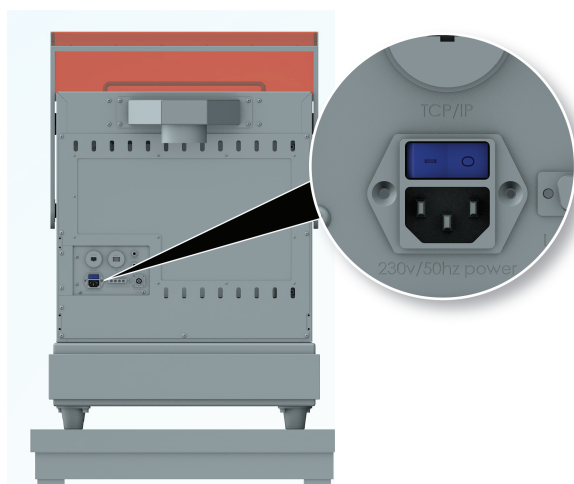

Figure 3-2 Turning on the PICOMASTER
3. Press the power switch on the back of the PICOMASTER, see **Figure 3-2 below**